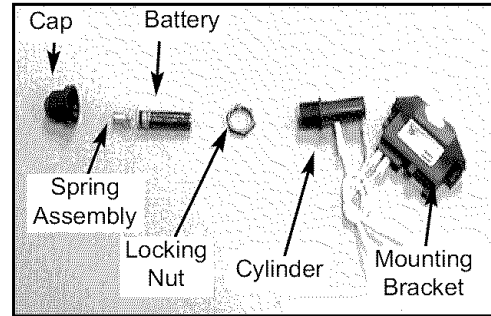

Fig. 1
1. Remove the igniter cap, spring assembly, battery and lock nut from igniter. (See Fig. 1)